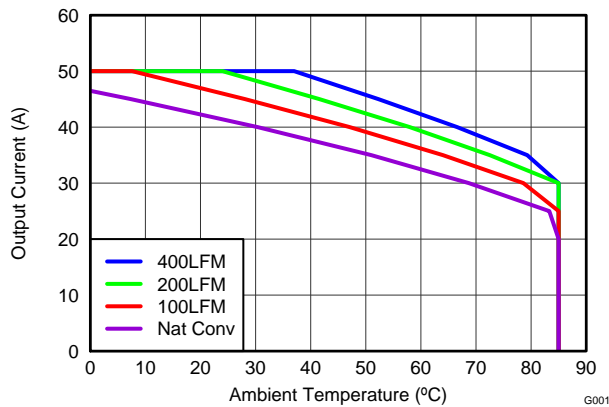
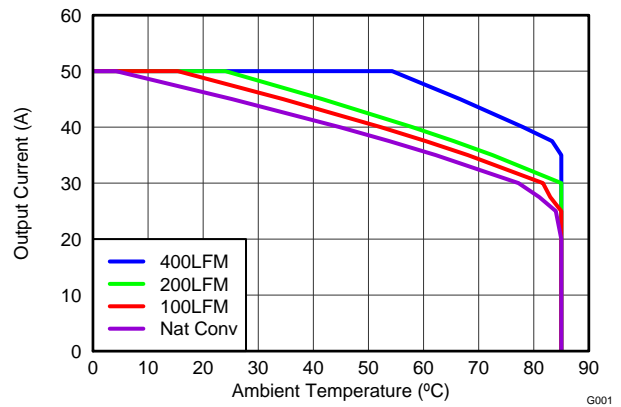
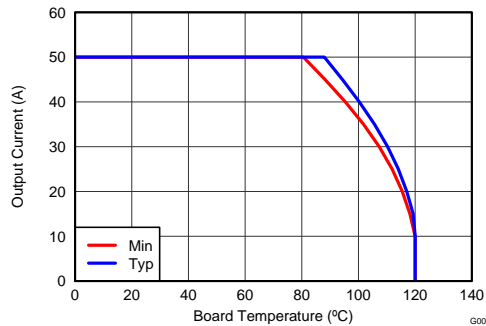

Figure 9. Safe Operating Area – PCB Horizontal Mount (1)
Figure 10. Safe Operating Area – PCB Vertical Mount (1)
Figure 11. Typical and Min Safe Operating Area (1)
The SOA curves in the CSD96371Q5M datasheet give engineers guidance on the temperature boundaries within an operating system by incorporating the thermal resistance and system power loss. Figure 9, Figure 10, and Figure 11 outline the temperature and airflow conditions required for a given load current. The area under the curve dictates the safe operating area. All the curves are based on measurements made on a PCB design with dimensions of 4.0" (W) x 3.5" (L) x 0.062" (T) and 6 copper layers of 1 oz. copper thickness.